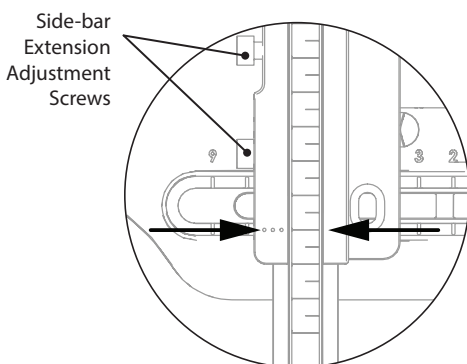

Fig. 15
Note... Side-bar scales are read at the arrow position indicated where the row three dots on the fixed bar rail lines up with the scale on the extendable bar, see Fig. 15. The example shown is a medial lower side bar set at 3 cm above minimum extension. This equates to a device knee center height of:
3. Check that the medial and lateral scale readings are equal (see Fig. 15); adjust as necessary, then tighten the extension lock screws to 5 Nm torque.